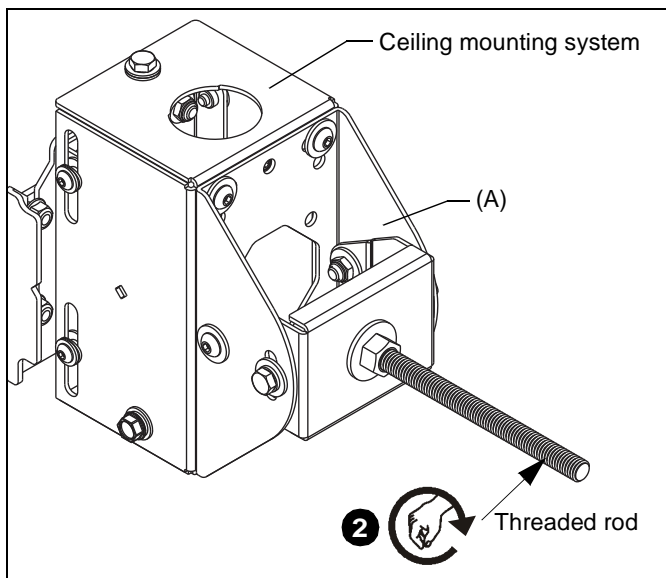

Figure 2
2. Attach 1/2" (or 12mm) threaded rod (not included) to threaded rod stabilizer accessory (A) using the appropriate hardware. (See Figure 2)